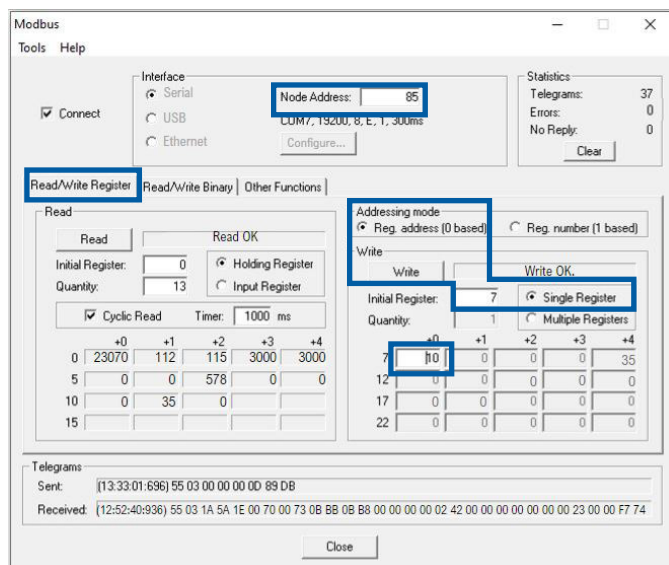

Figure 15 - Write address
- Step 2: Input the new address (for example 10) in register 7 (the register address is 00 07), and click write (Figure 15).